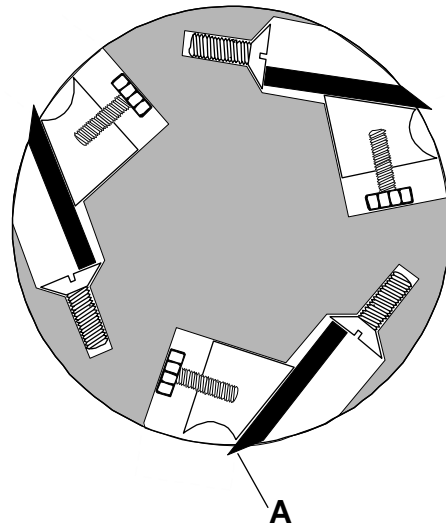

Figure 14
2. Rotate the cutterhead such that one of the *knife blades* (A, Fig. 14) is at the 6 o'clock position.